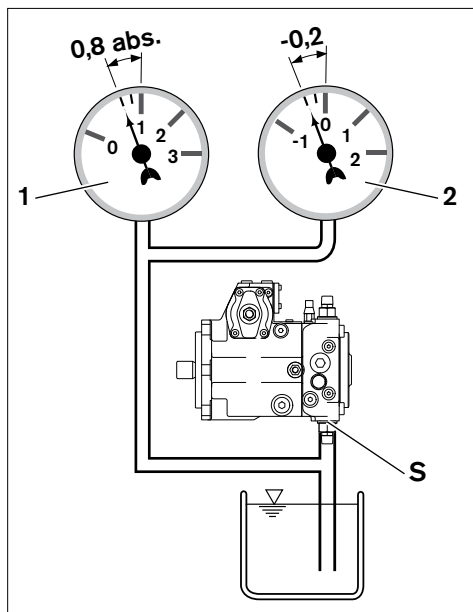

Fig. 17: Suction pressure
- ▶ Make certain that a minimum suction pressure of 0.8 bar absolute is present at port "S" during operation and on cold starts in all installation positions and installation locations for the axial piston pump, see Fig. 17. See data sheet for additional values.